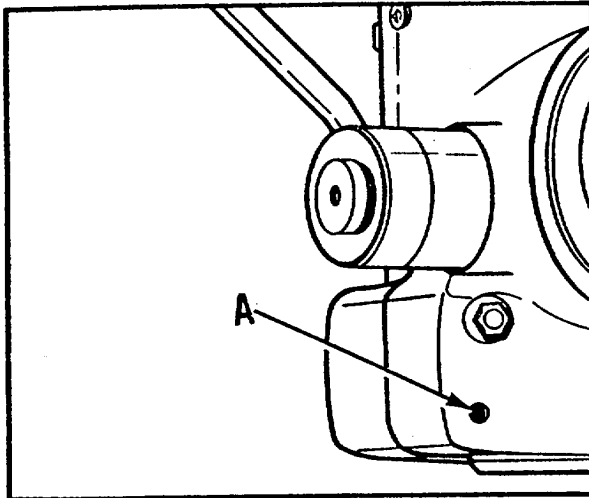
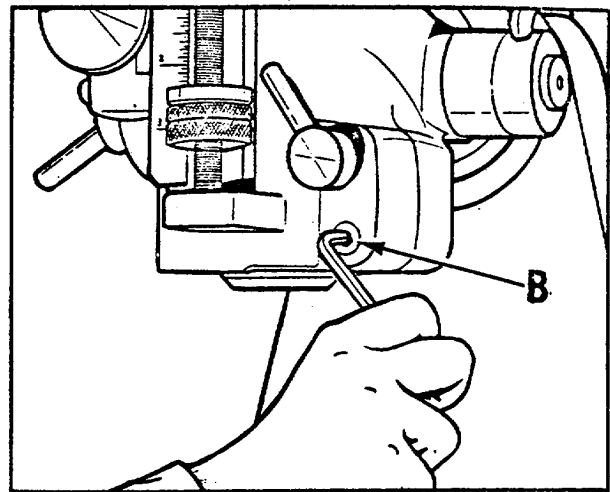

Fig. 12.
Fig. 13.
Any play which might develop between the quill and head casting after considerable use, can be taken up by loosening the socket head set screw (A) Fig. 12, and partially tightening screw (B) Fig. 13, as shown. When correct adjustment of the quill is obtained tighten the socket head set screw (A) Fig. 12.